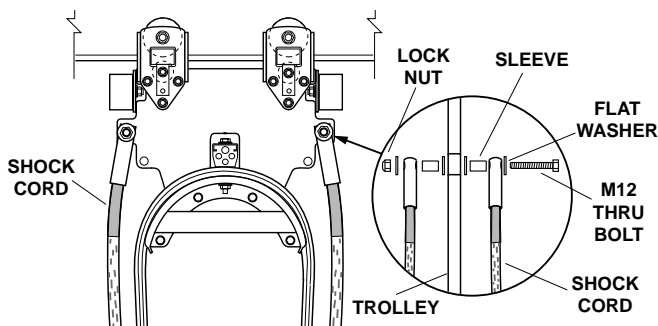

FIGURE 22–SHOCK CORD INSTALLATION
1. Mount shock cords on sleeves with M12 thru bolt, flat washers and ESNA lock nut as shown in Fig 22.